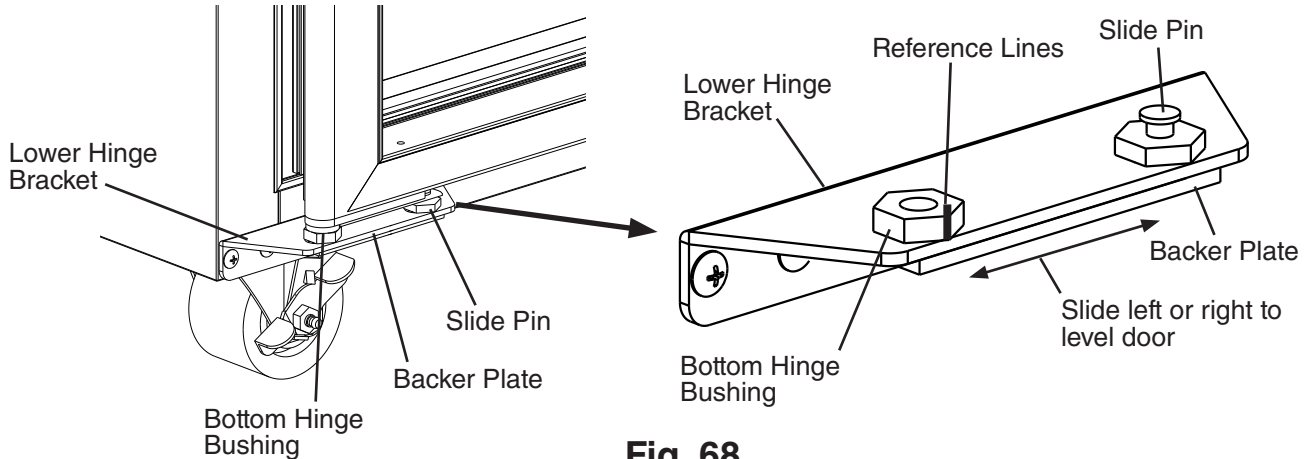

Fig. 68
- 22) Level the doors. If the doors are out of level, loosen the backer plate of the appropriate hinge bracket, slide the backer plate to the left or to the right, then tighten the slide pin and bottom hinge bushing with a wrench until it is tight. See Fig. 68. Next, mark a reference line on the bracket and fitting then tighten the fitting an additional 1/8 turn. Do this for both the upper and lower hinge.